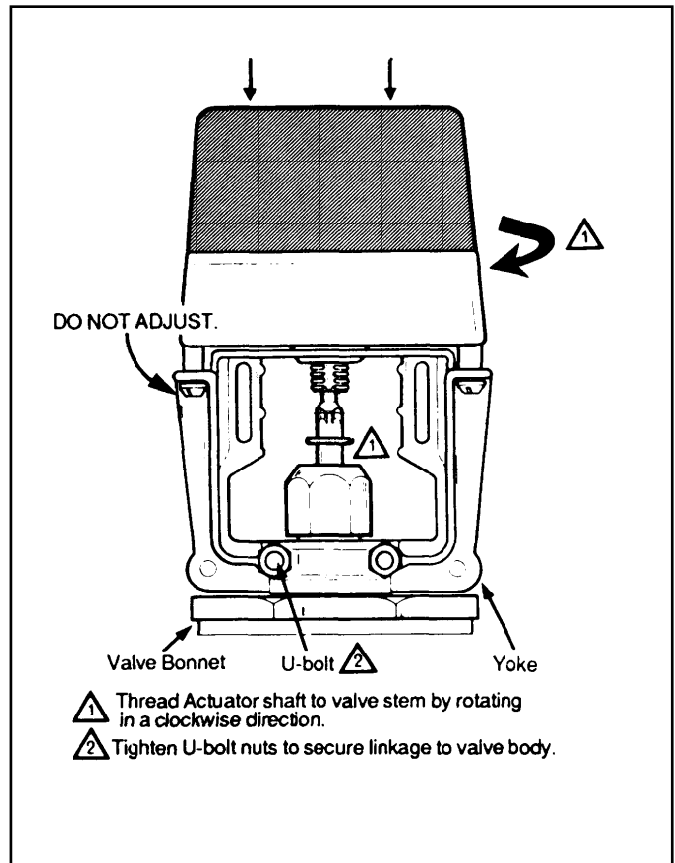

FIG. 4 -- ASSEMBLY OF ML7984A TO VALVE.
1. The drive shaft of the ML7984 has a threaded hole to link with the valve stem. Slide the yoke over the valve bonnet (Fig. 4)
3. Care should be exercised when using the TOOLS on the valve stem during tightening. (Fig.4) DO NOT damage the threads or other parts of the stem.